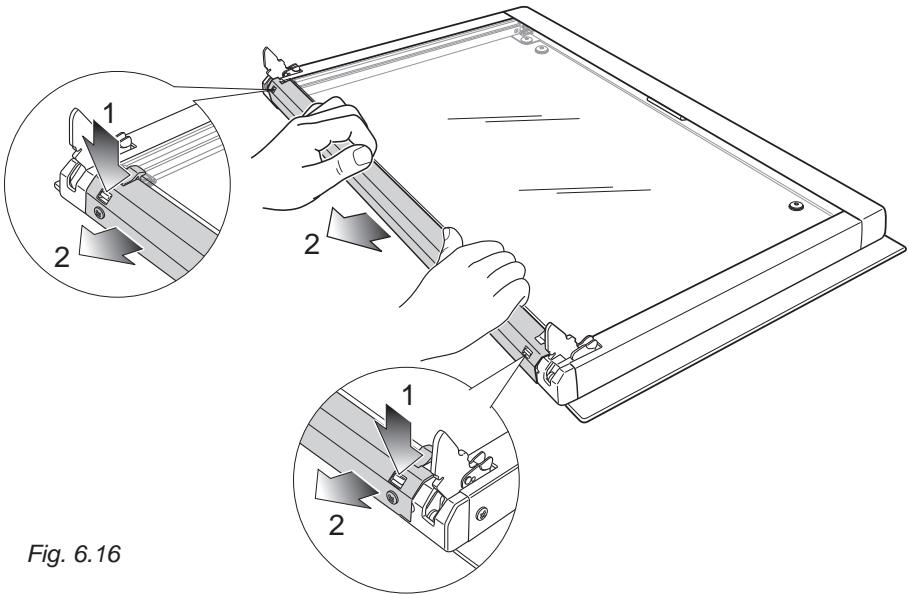

Fig. 6.16
**IMPORTANT:** The door shall be placed horizontally as per fig. 6.16.